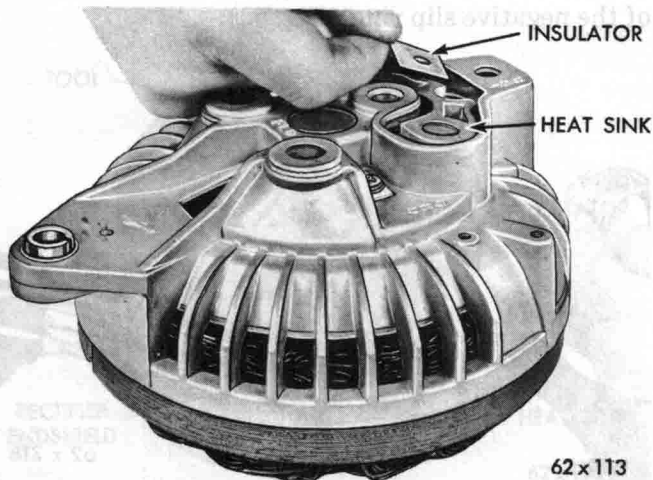

Fig. 45—Removing or Installing Heat Sink Insulator
(8) Remove the D.C. output terminal nuts and washers and remove terminal screw and inside capacitor (on units so equipped).
(9) Remove the insulator (Fig. 45).